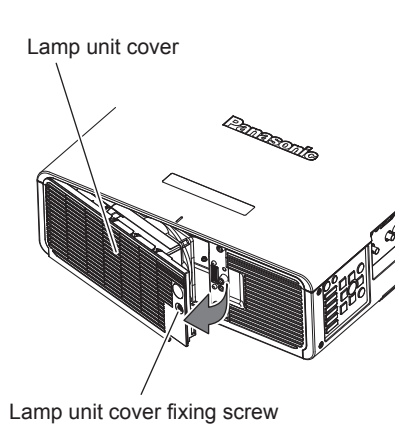

Fig. 1
- 2) **Remove the lamp unit cover. (Fig. 1)**